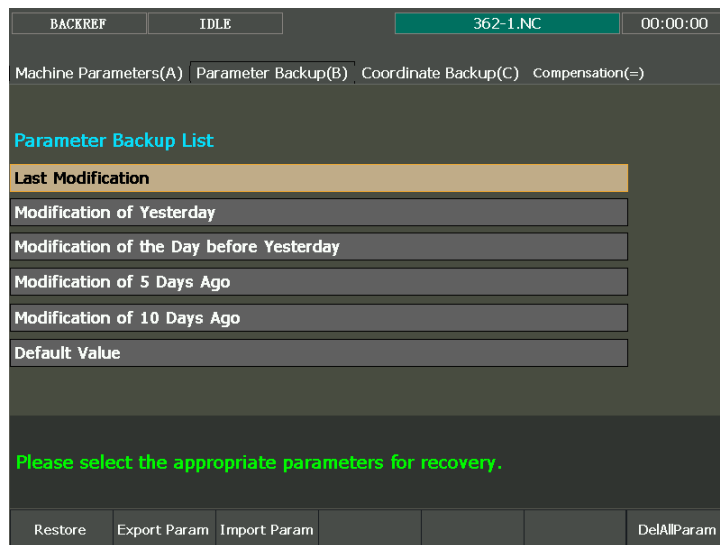

Fig. 3-73 Parameter Auto Backup
[Parameter Backup (B)] sub-function screen under [Parameter] function section is as shown in Fig. 3-73: in this screen, press “↑” and “↓” direction keys to select an effective backup parameter, and then press F1 and F7 to restore or delete the selected backup parameter. By pressing F2 and F3 respectively, the selected backup parameter can be exported to the USB device or the parameter in the USB device can be imported to the system.